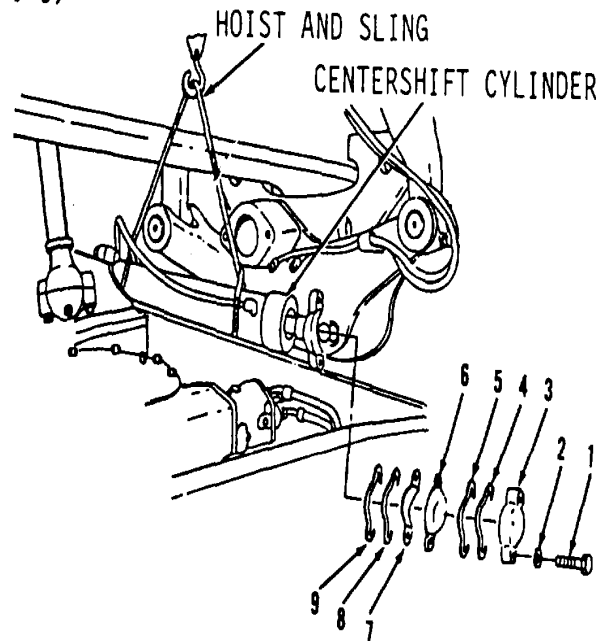

Figure 12-6.
11. Attach hoist and sling to center-shift cylinder (Figure 12-6).
13. Install shim(s) (9 and 8), inserts (7 and 6), shim(s) (5 and 4), cap (3), two lockwashers (2) and bolts (1).